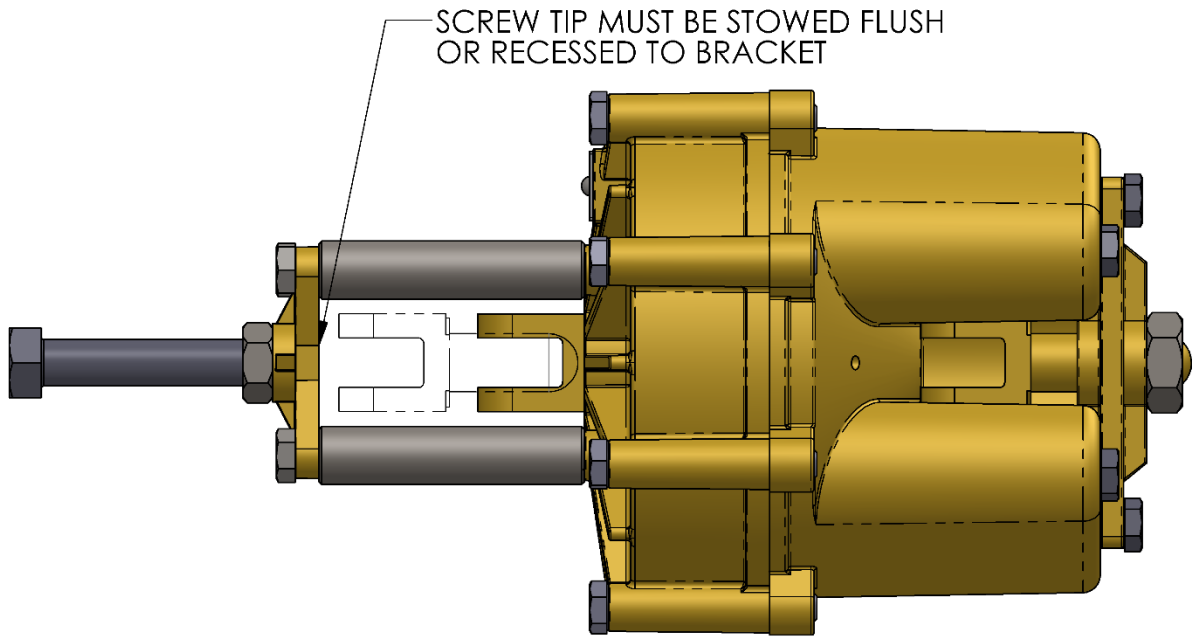

Figure 4: Release screw stow position
7. Install the release screw into the hole on the bracket and tighten the jam nut to secure the release screw. Ensure the release screw is locked so that the tip of the screw is not beyond the face of the release kit bracket as shown in Figure 4. This will ensure that the actuator can move through its full range of motion. This is considered the 'un-caged' position.